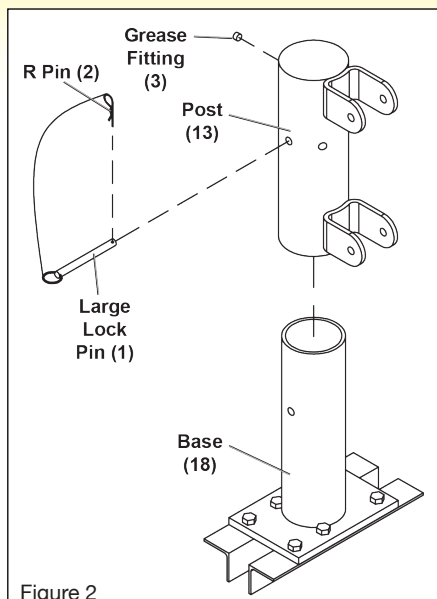

Figure 2
4. Slide Post (13) onto Base (18) and secure using Large Lock Pin (1). **Figure 2**